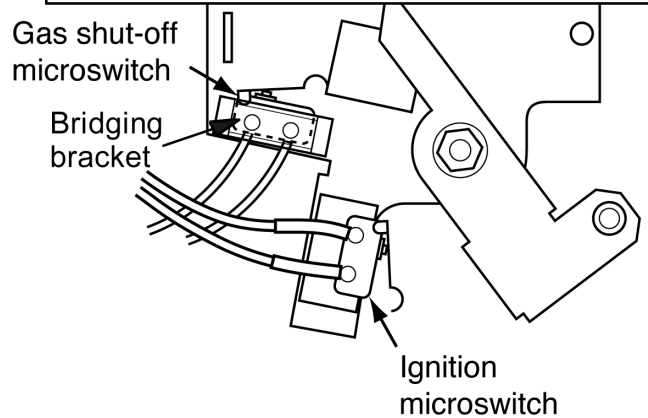

Figure 52. Microswitches
3. Disconnect the leads from the ignition microswitch (The lower of the two microswitches - See figure 52).
4. Detach the bridging bracket, microswitch assembly and insulation pad by removing two screws. See figure 52.